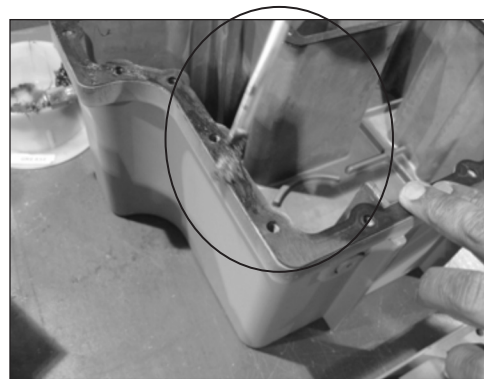

Figure 16.15 Example - Apply grease to back side of flat gasket
5. Place the new rubber flat gasket on the cover with the lip seated in the groove of the rear enclosure and apply more grease to the flat gasket as shown in Figure 16.15 Example.